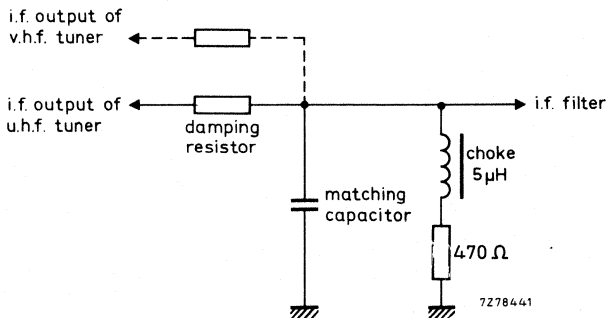

Fig. 9.
The tuner needs a d.c. path from the i.f. output terminal (10) to earth, preferably via a choke of approx. $5 \mu\text{H}$ outside the tuner (Fig. 9). Where the tuner is used in combination with a v.h.f. tuner, this choke can be common for both tuners; a resistor in series with the choke can make ineffective the i.f. output circuit of the switched-off tuner. For damping the i.f. output circuit and matching the i.f. output impedance of the tuner to the i.f. amplifier, a series resistor and a parallel capacitor as shown in Fig. 9 should be used.